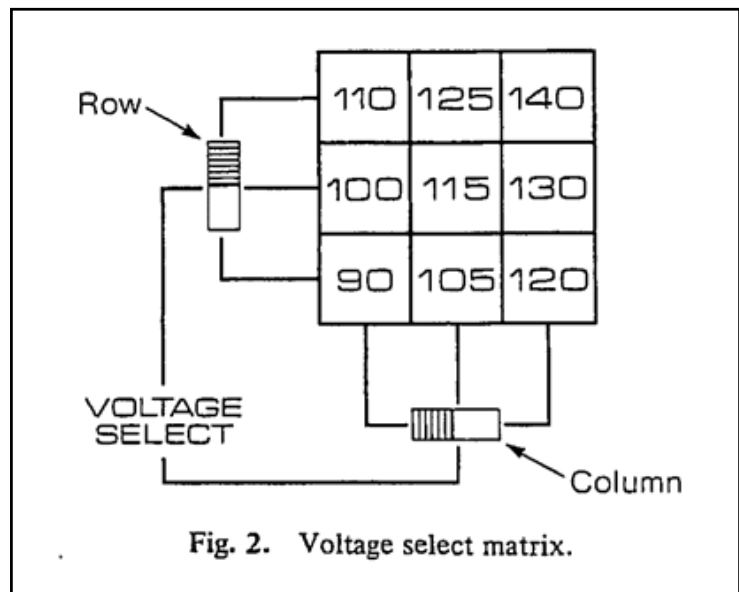

Fig. 2. Voltage select matrix.
3. Select the desired voltage with the VOLTAGE SELECT switches. The two 3 position switches are connected in a matrix arrangement as shown on the front panel of the ISOPACK, and in Fig. 2. The matrix provides nine possible combinations, each producing a different output voltage. For example, if both switches are in the center position, a 115 volt output results. With the “ROW” switch selecting the top row and the “COLUMN” switch selecting the left column, a 110 volt output results, etc.
6. The voltages shown on the matrix (Fig. 2) are approximate, depending upon the load and the input voltage's variance from 120 volts. To determine the specific voltage, connect a precision Multimeter to measure the AC voltage at the ISOLATED output.